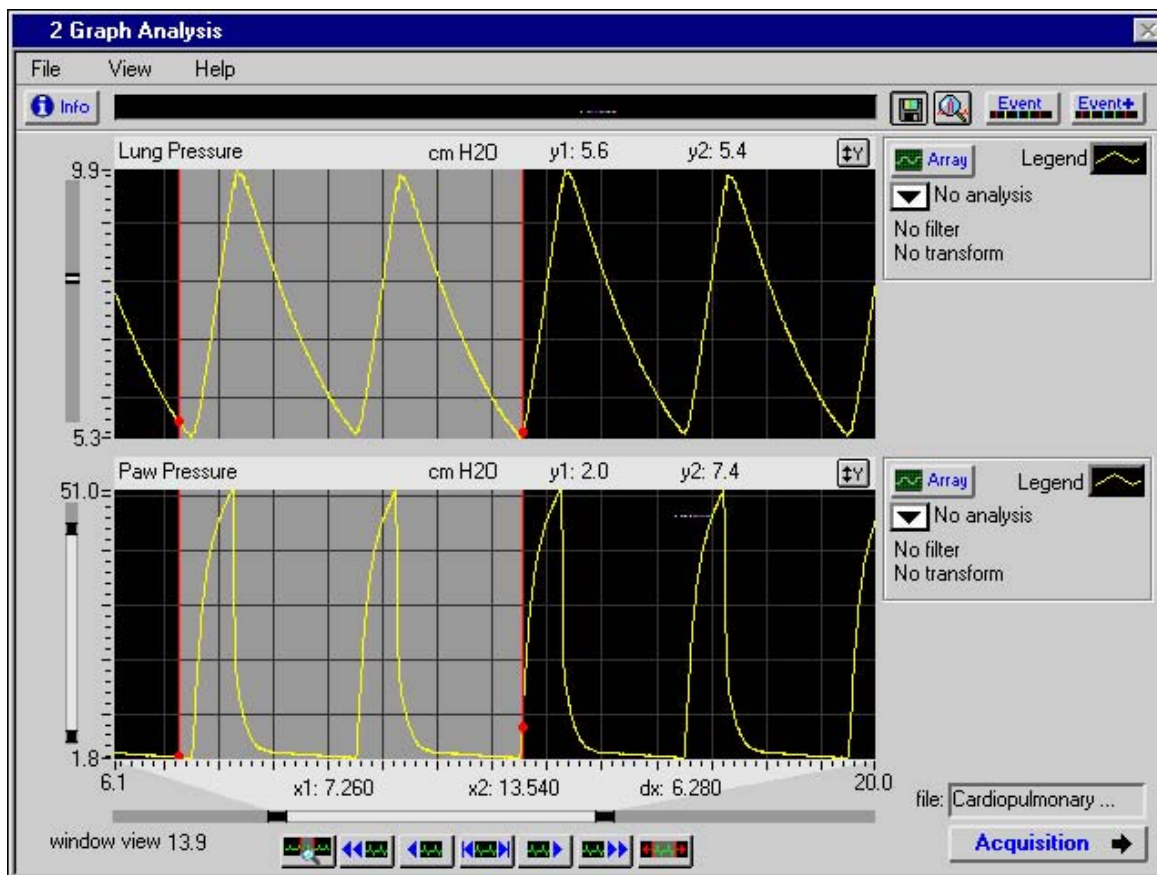

Figure B-21. Data Selection in the 2 Graph Analysis View
6. Now that you have the two signals on your Analysis view, highlight a region of data by clicking and dragging your mouse over the graphs. Figure B-21 shows the 2 Graph Analysis view with a subset of data highlighted.